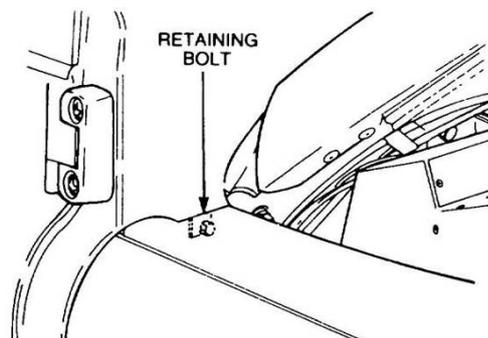

Figure 156 Removal of the Mudguard-to-firewall Bracket
- m.** Remove the bolt and flat washer securing the top of the mudguard to the firewall bracket (Figure 156).